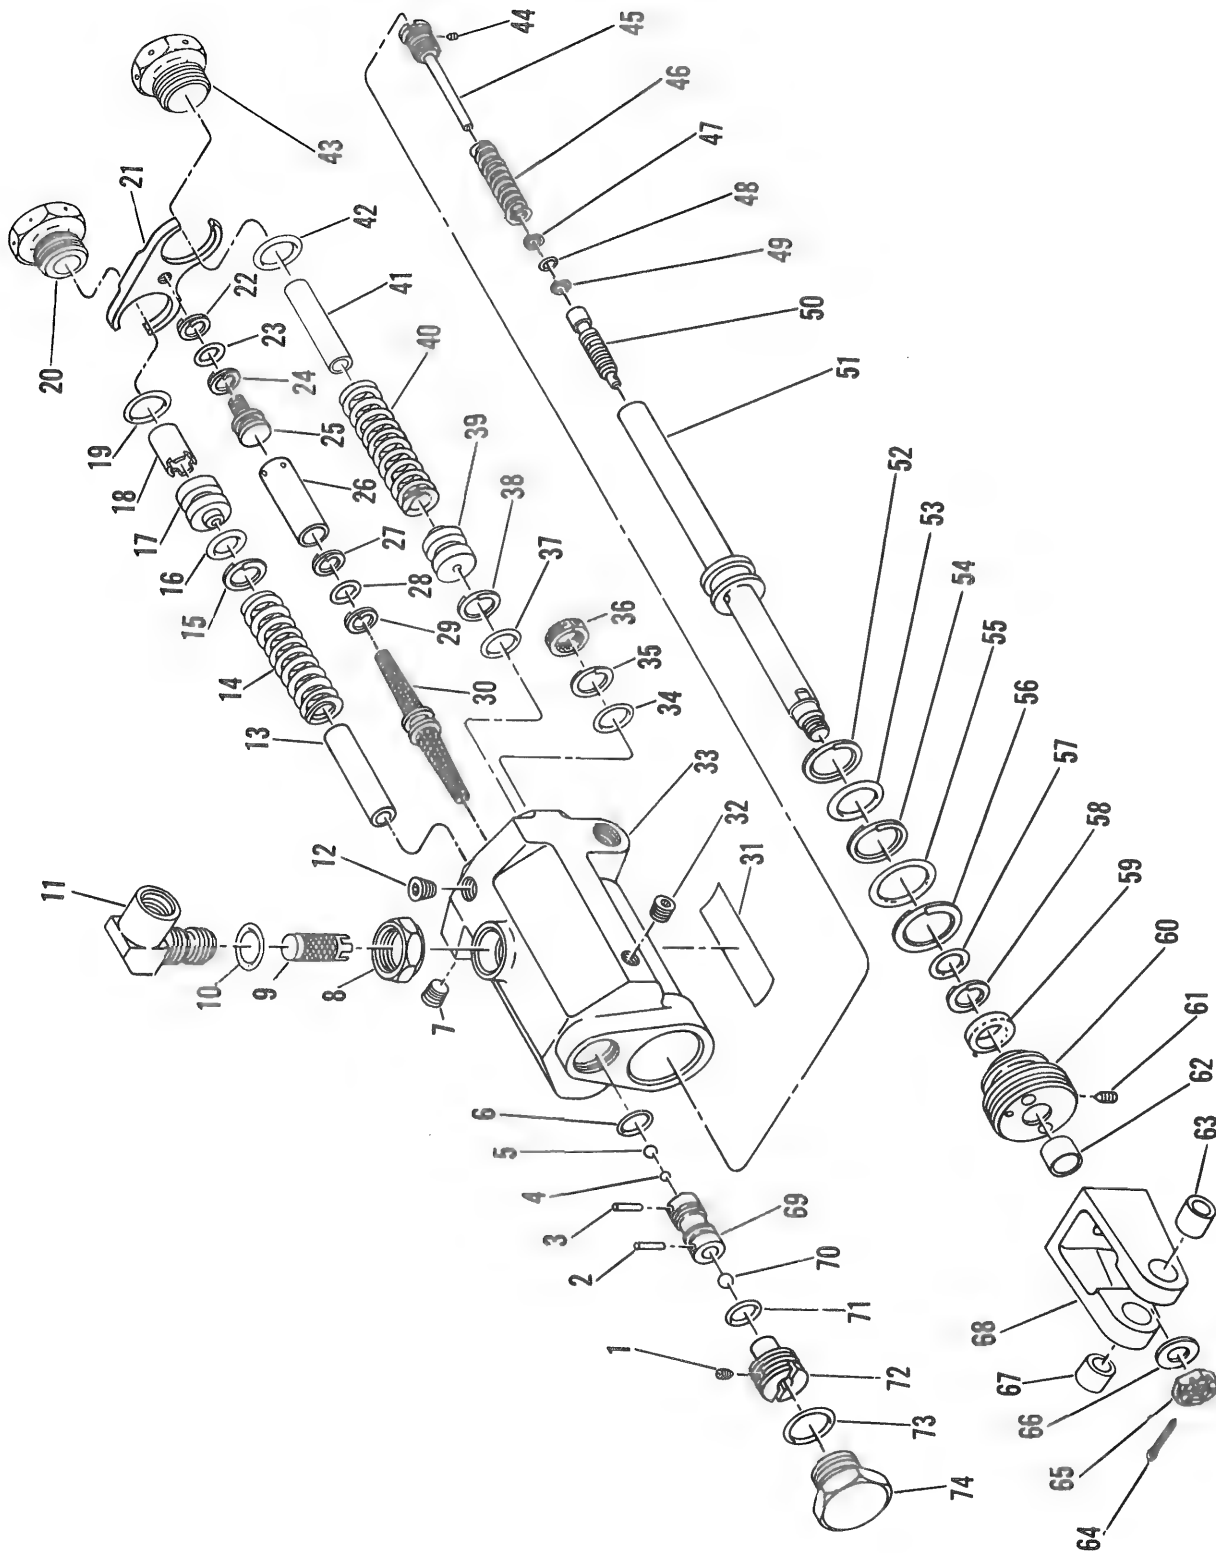

Figure 7-22. Pedal Damper Assembly—Disassembled (Sheet 1 of 2)
If plugs (7, 12, and 32, figure 7-22) were removed, apply a light coat of petrolatum, Military Specification MIL-C-11796, or hydraulic fluid, Military Specification MIL-H-5606, to threads of plugs and screw into place in the housing (33). Tighten plugs to a torque of 30 to 40 inch-pounds.
a. Bond nameplate (31) to the housing (33) using cement, EC-711, Minnesota Mining and Mfg. Co.
b. Install packing (34) and backup ring (35), with packing on inboard side, in inboard channel of housing (33). Install felt (36) in outboard channel of housing.
c. Install each packing (6 and 71) on body (69) of differential check valve assembly and slide it into place in housing (33). Apply a light coat of petrolatum, Military Specification MIL-C-11796, or hydraulic fluid, Military Specification MIL-H-5606, to threads of check valve plug (72) and screw it into place against differential check valve assembly in housing (33). Install gasket (73) and nylon insert (1) on end plug (74). Apply a light coat of petrolatum, Military Specification MIL-H-11796, or hydraulic fluid, Military Specification MIL-H-5606, on threads end of plug and screw it into housing.